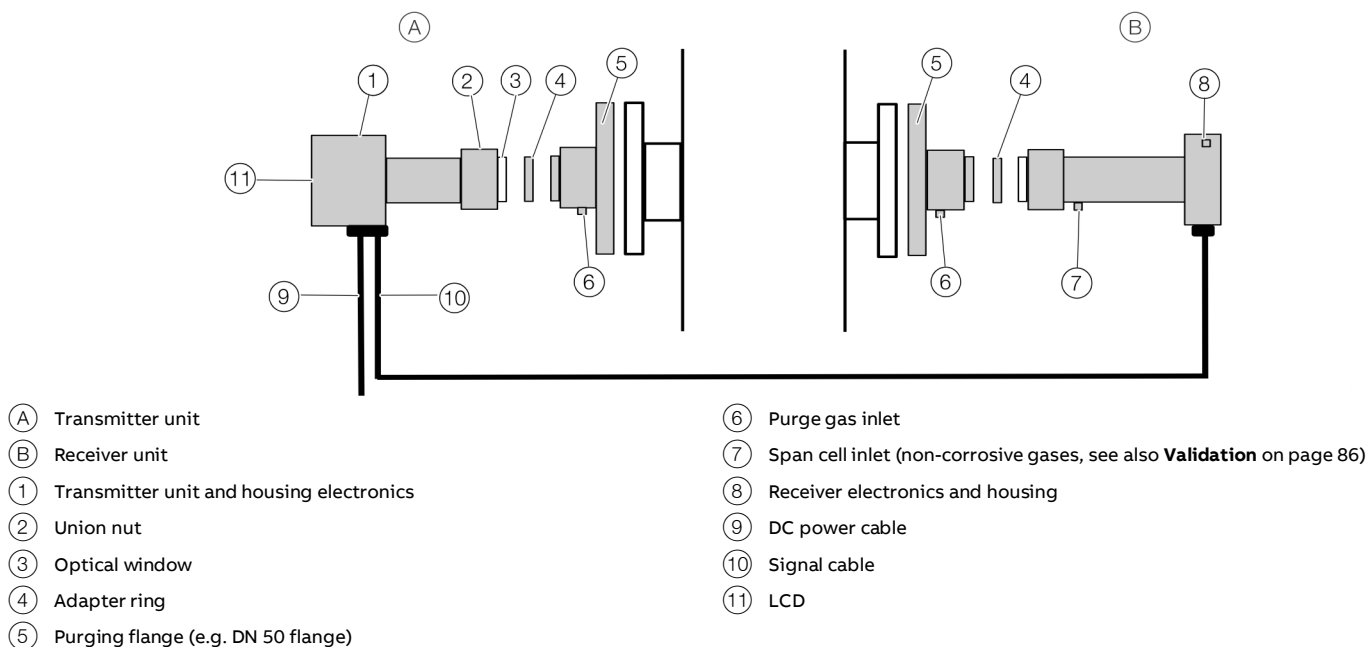

Figure 25: General view of AO2000-LS25
1. Install the purging flanges (5) on the stack flanges using 4 M16 × 60 screws each, see **Figure 25** on page 39. All 4 bolts on either side must be tightened firmly to compress the large O-ring. Adjust the 4 locking screws prior to mounting the unit, to assure good alignment of the unit and a uniform compression of the O-ring.
3. Place the window adapter ring (4) on the purging flange. Make sure that the O-ring is firmly connected to the purging flange and greased. The guiding pin on the purging flange must fit the hole in the adapter ring.